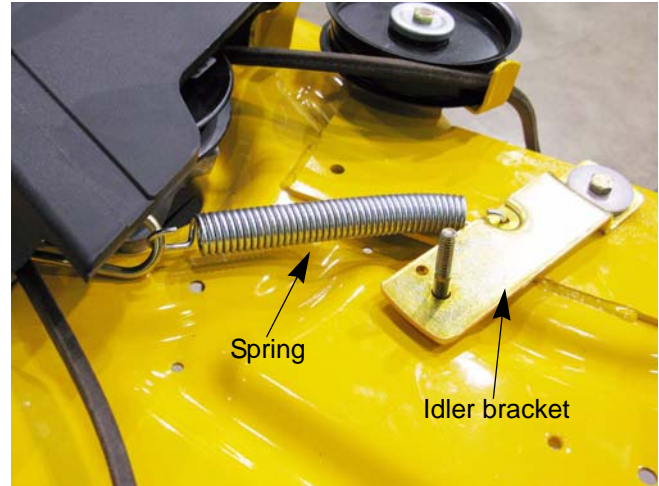

Figure 7.12
- 3a. Disconnect the idler spring. See Figure 7.12.